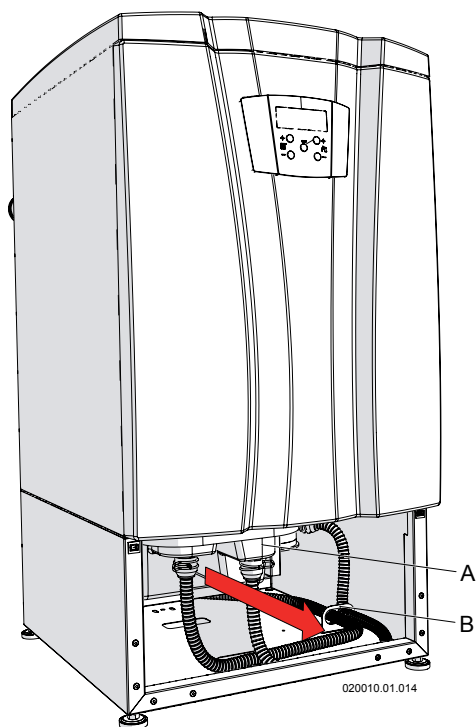

Figure 16-10 - Condensate trap and neutralizing box removing
- 2.- Pull out the condensate box "A" (Figure 16-10);